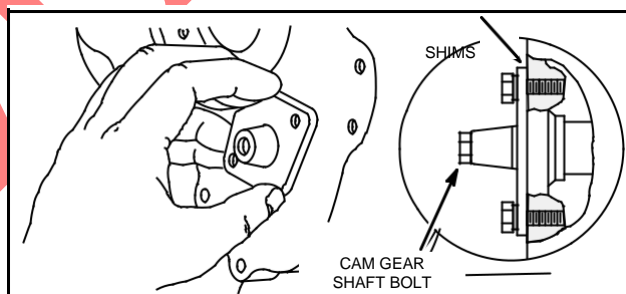

Fig. 886 - INSTALLING CAM GEAR BEARING
6. Install long cam gear bolt 5-1/2" (140.00 mm) finger tight to prevent loss of camshaft, Fig. 886.